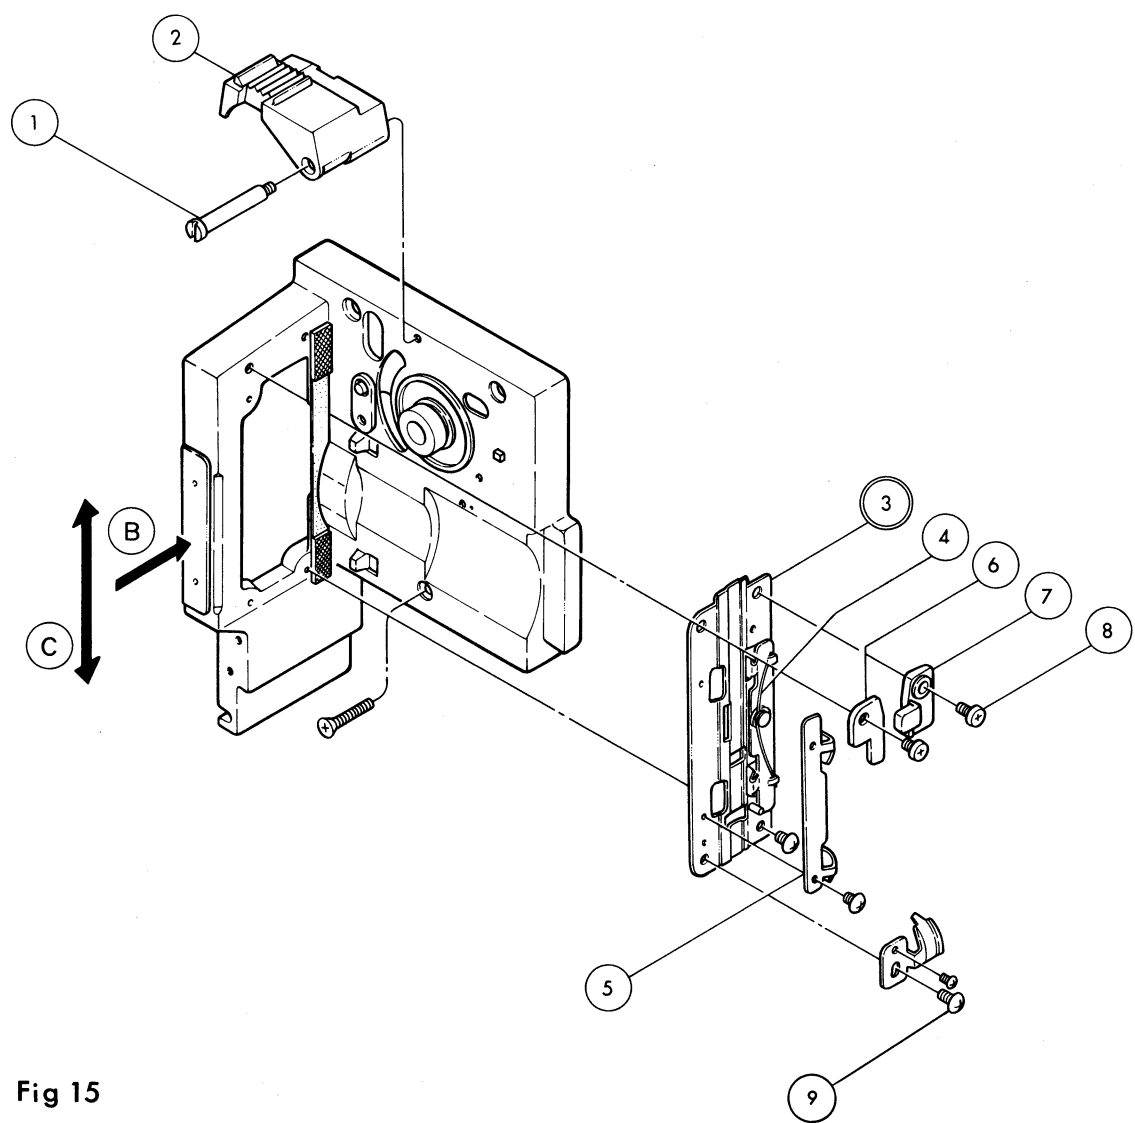

Fig 15
A. Disassembly Refer to Fig.15.
2. Remove (1) and detach (2).
3. Remove (9)x4 and detach ((3)).
Measure it at a point (a) of Fig.15 with a bar spring scale (C043).
3. Use a gauge (P049) for attaching ((3)) as shown in Fig.15.